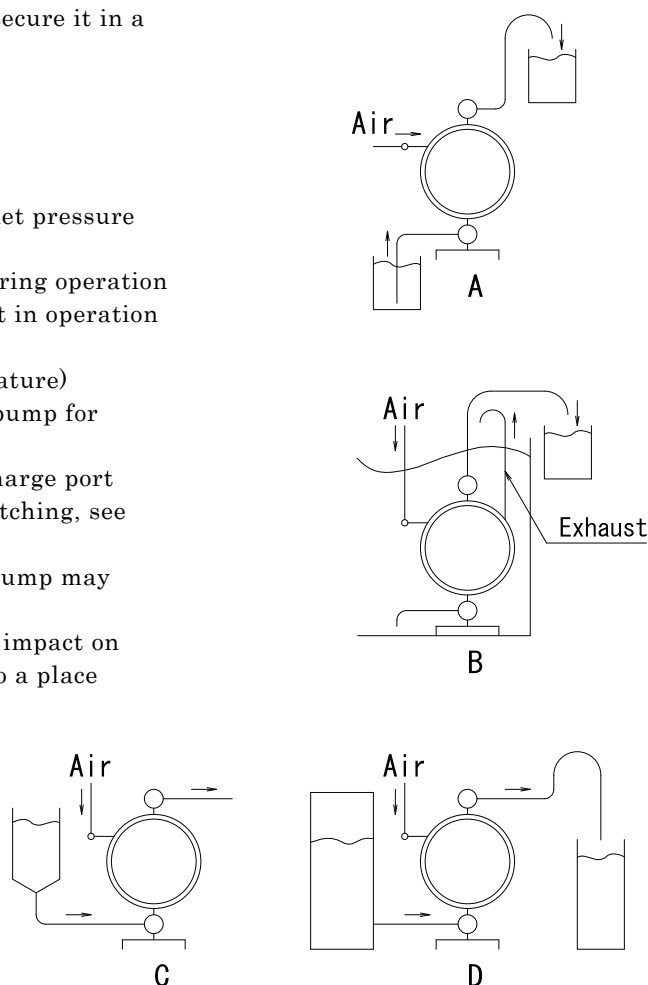

Fig. 3.1
- 1) Decide where the pump should be installed and secure it in a suitable space (see Fig. 3.1 A to D).